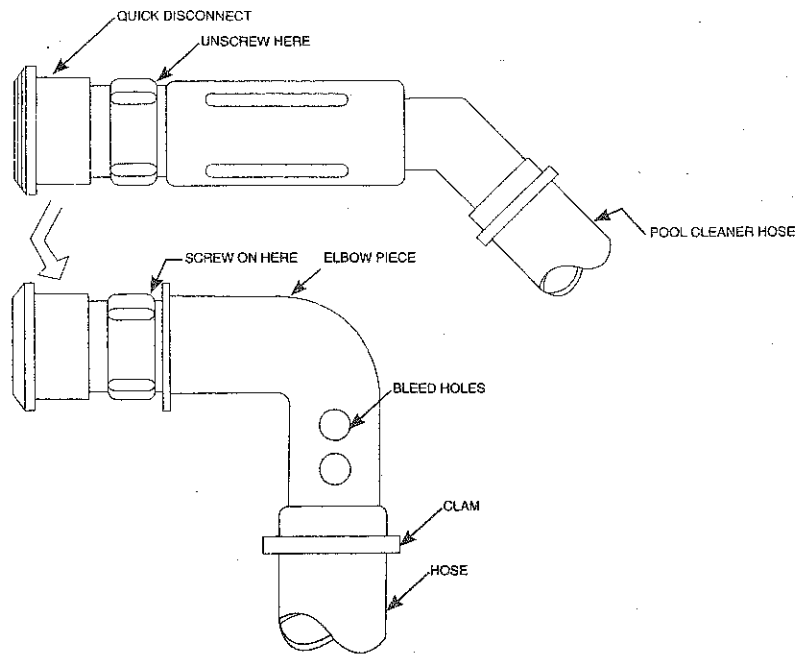

FIGURE 7
- Pool cleaner quick disconnect fittings.Refer to Figure 7.Use installation **instruction 4,page 6** for this type inlet.
2. Unscrew the end of your pool cleaner hose fitting as indicated in Figure 7.Screw the quick disconnect fitting on to the threaded end of the Elbow Piece(6).Tis is your inlet adapter.
3. Refer to Figure 1.Uncoil the hose (3) and remove all twist.Using clamps(15),clamp one end of the hose to the back side of the fountainhead (1) and the other end to the inlet adapter from step 2.Cover one set of bleed holes with the hose (Fig.7). To tighten clamp,grasp "tabs" between thumb and forefinger and squeeze.Tighten securely with a pair of pliers.To open the clamp,grip one "tab" of the clamp with pliers and twist loose.
4. Using the tie wrap(14),LOOSELY attach the anchor(4) to the hose (3).the anchor(4) should be attached to the hose(3) at a point as deep as the water plus approximately two feet.You will have to estimate what the water depth is where you want the fountain and add two feet **CAUTION:DO NOT CONSTRICT THE HOSE BY TIGHTENING THE TIE WRAP (14) TOO TIGHT.**
6. Place the fountain assembly into the pool.Position the fountain in the desired location being careful not to crimp the hose (3).
Height adjustment is achieved by covering more or less of the bleed holes(Fig.7) on your elbow piece(6) with the hose(3). The more holes covered,the higher the fountain and vice versa.